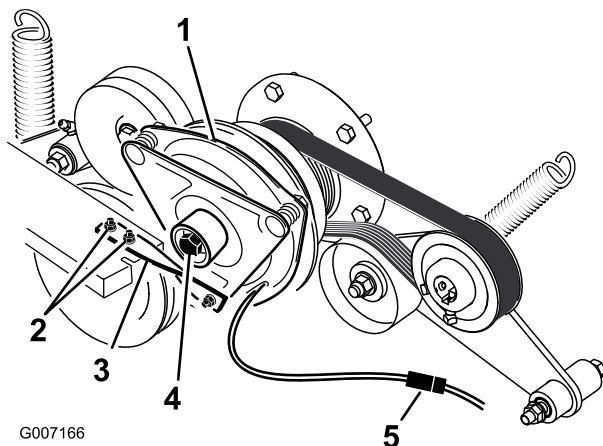

Figure 60
6. Unplug the electric connection for the clutch (Figure 60).
7. Remove the two bolts holding the rubber clutch strap to the mower frame (Figure 60).
8. Remove the center bolt holding the clutch to the engine shaft and remove the clutch and key (Figure 60).
15. While holding the crank shaft at the back of the machine, install the center bolt and torque it to 50 ft-lbs (68 N-m) (Figure 60).
16. Install the rubber clutch strap to the mower frame with the two previously removed bolts and nuts (Figure 60).
18. Plug in the electric connection for the clutch (Figure 60).